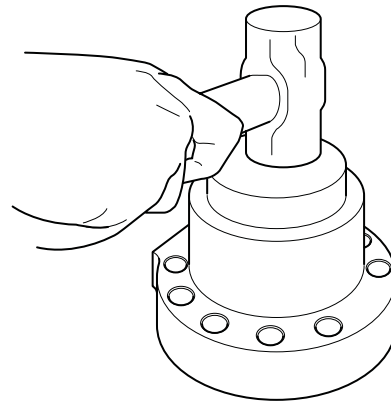

Fig 91.
- 6 Place the Wiper ring into the cylinder head horizontally. Using the insertion tool, carefully press the wiper into position making sure not to deform the wiper lip → Fig 91. (□ E-199).